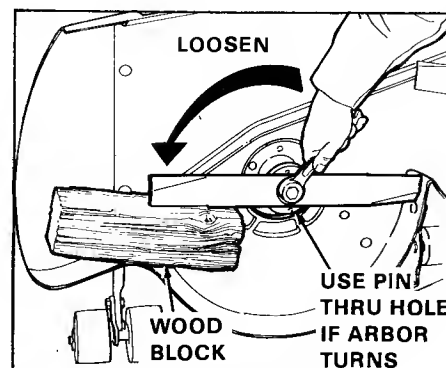

Figure 20. Removing Blade
2. Position the mower as in figure 20. Secure the mower so it will not fall or slide.
4. To remove the blade for sharpening use a wooden block to hold blade while removing the capscrew (figure 20).